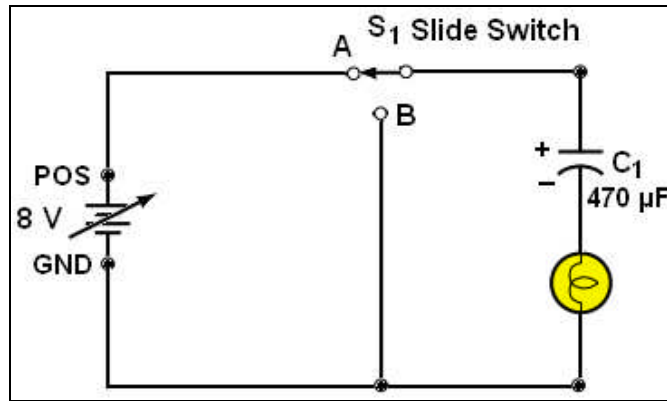

Fig. 3-1 Capacitor Blocks Direct Current
1. Connect the circuit shown in Fig. 3-1. Adjust the positive voltage so that the voltage between the positive and ground terminals is 8 volts.